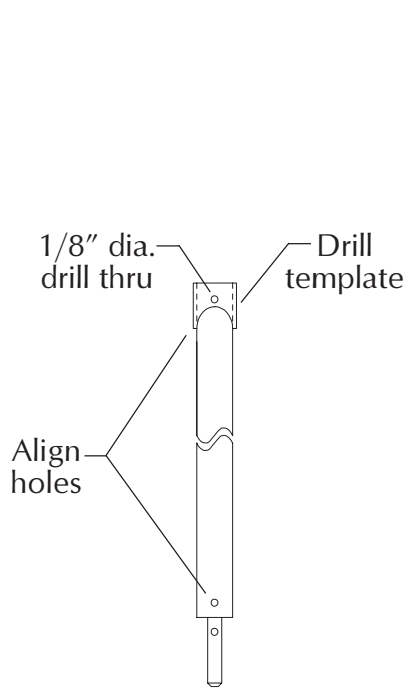

Figure 9-3
- 9.3. Drill hole in rod extension (Figure 9-3).